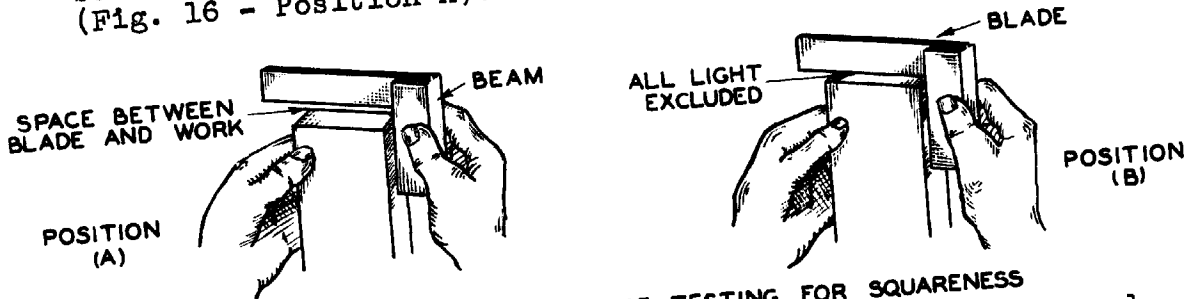

FIG. 16 CORRECT METHOD OF TESTING FOR SQUARENESS
4. Hold the work with the left hand; grasp the beam of the square with the right hand. Place the inside of the square against a finished surface of the work, so that the beam is in full contact with one side and a slight space remains between the blade and the other surface of the work. (Fig. 16 - Position A).
5. Lower the blade carefully to the surface of the work, and note where the blade first comes in contact with the surface. If the angle is square, all light will be excluded (Fig. 16 - Position B).